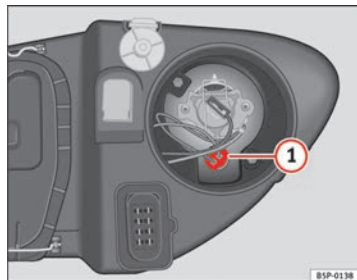

Fig. 190 Side lights
- Extract the bulb holder ⇒ fig. 190 ① outwards.